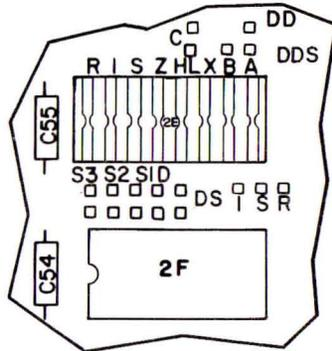

FIGURE 3-16. JUMPER PLUG SHUNT AND TERMINAL POSTS
2. Jumper plug DS terminal posts. See Figure 3-16.
2. Install jumper plug at D terminal posts. See Figure 3-16.
1. Cut away shunt Z at 2E between pins 4 and 13. See Figure 3-16.
2. Cut away shunt I at 2E between pins 2 and 15. See Figure 3-16. (If Hard Sector selective feature has been installed, also cut away shunt S at 2E between pins 3 and 14.)
3. Add a jumper wire from pad I to one of the unused spare I/O pins (e.g., J1-2, 4, 6, or 8) pads. See Figure 3-16.